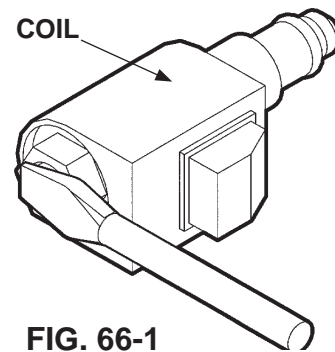

FIG. 66-1
1. Check if solenoid valves are constantly energized by touching a screwdriver to the top nut of the solenoid (**FIG. 66-1**). Try pulling the screwdriver away from the solenoid. If the solenoid nut attracts the screwdriver (magnetically) without pushing the toggle switch, the control circuit is operating incorrectly. Check if toggle switch, wiring or coil are faulty.